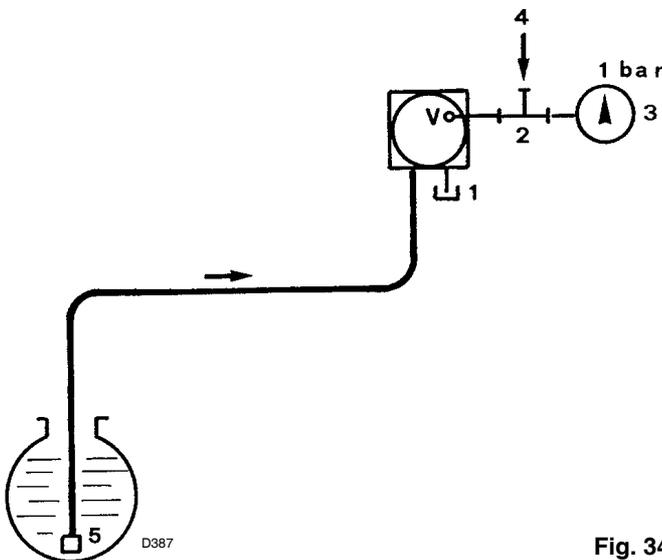

Fig. 34
**Gas oil fuel supply line (Fig. 34)**
If the previous checks have suggested that air may be entering the circuit somewhere, pressurize the circuit piping. Plug the pump's return line connector 1)(Fig. 34) after removing the hose. Install a union T 2)(Fig. 34) on the vacuum meter attachment. On one branch of the T install the pressure gauge 3) and on the other branch 4) inject air at a pressure of 1 bar. After the injection of air has stopped, the gauge reading should remain stable. The suction piping must be equipped with a foot valve 5).